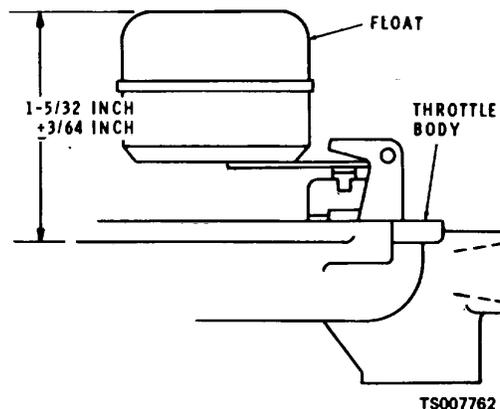

Figure 6-2. Float Level Adjustment.
d. After installing the float (12) and axle, check the position of the float. With the throttle body in an inverted position and viewed from the free end of the float, the float bodies must be centered and at right angles to the machined surface (fig. 6-2). The distance from the machined surface of the throttle body to the top side of the highest point of the float bodies must be $1-5/32 + 3/64$ inches. To increase or decrease the distance between the float body and machined surface, use long-nosed pliers and bend the lever close to the float body.